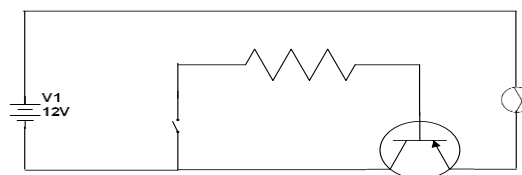

Figure 6.2 Light switching circuit
- Observe the function of this light-switching circuit, tracing the directions of all currents when the switch closes as shown in figure 6.2